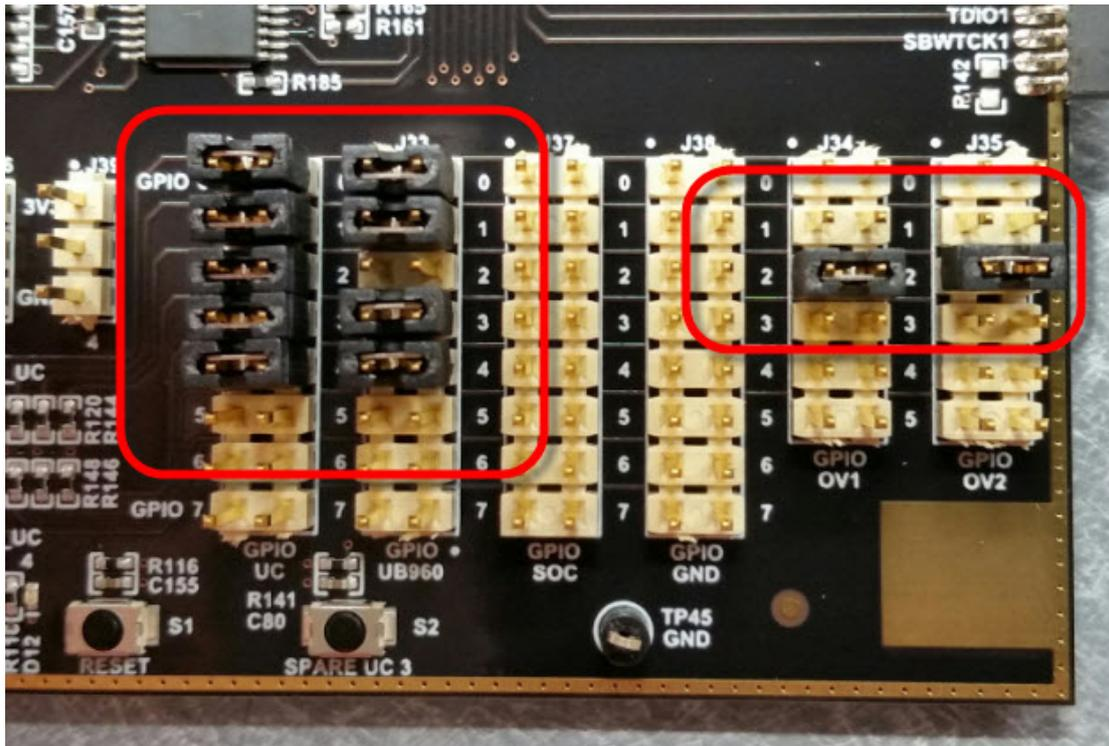

Figure 11: GPIO Jumpers
1. Configure the GPIO (see below for more detail) Add/Verify jumpers in the following locations: (see figure 11)